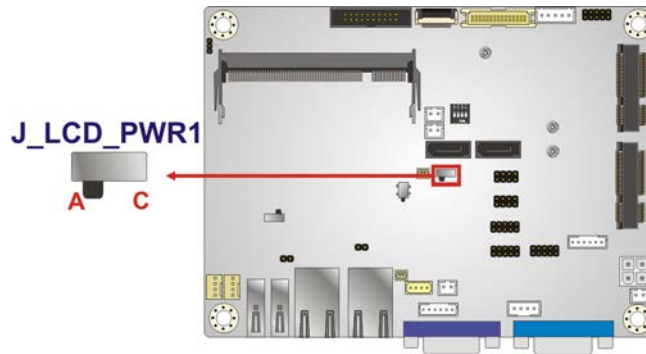

Figure 4-12: LVDS Voltage Selection Jumper Location
- Jumper Location:** See Figure 4-12